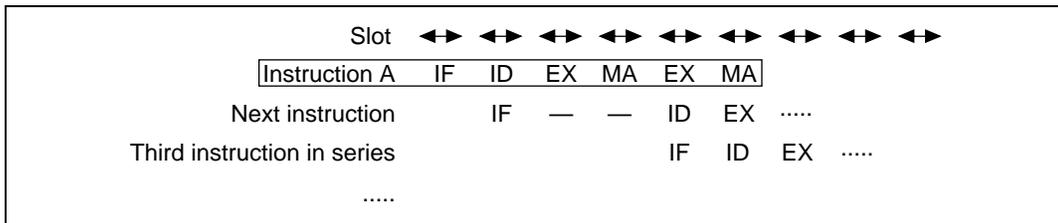

Figure 10.35 Memory Logic Operation Instruction Pipeline
The pipeline has six stages: IF, ID, EX, MA, EX, and MA (figure 10.35). The ID of the next instruction stalls for 2 slots. The MAs of these instructions contend with IF (see 10.2.1 Contention between Instruction Fetch (IF) and Memory Access (MA)).
(4) SR Update Memory Logical Calculation Instructions**Instruction Type:**